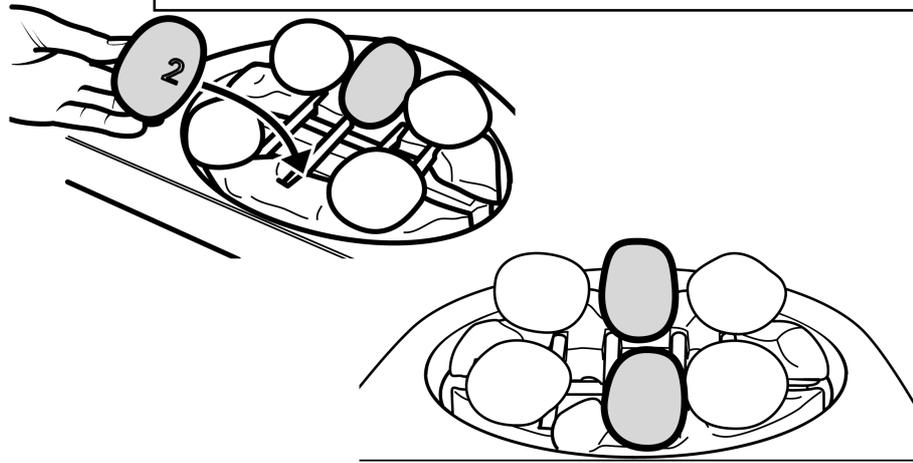

Figure 34 Pebble number '2' Location
5. There are two pebbles numbered '2' on the underside. Locate these on the pebble base between the ends of the inner left and right ceramic support rods (See figure 34).
between the ends of the inner left and right ceramic support rods (See figure 34).